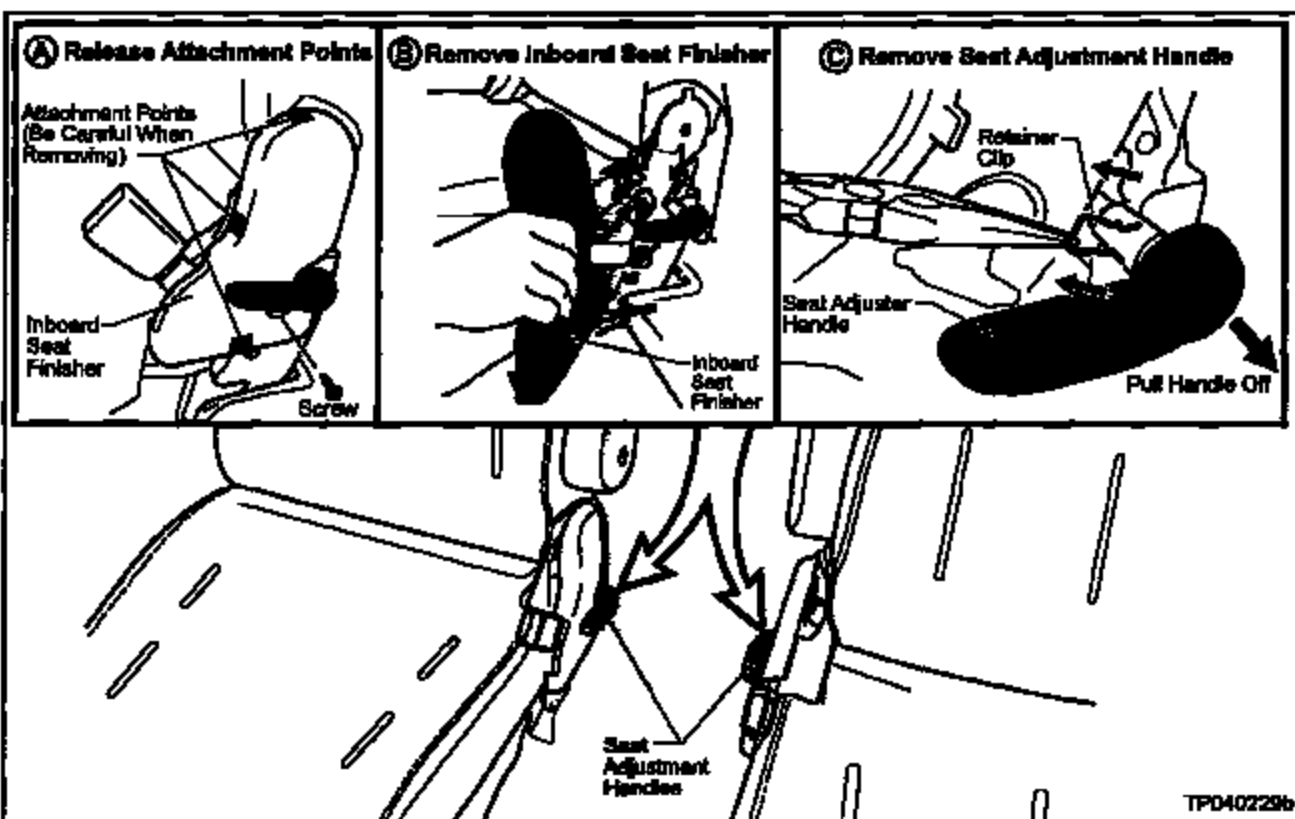

Figure E1
- a. Remove the Mounting Screw from the Inboard Seat Finisher, then release the Finisher from the attachment points (see Figure E1[A]).
- b. Carefully remove the Inboard Seat Finisher (see Figure E1 [B]).
- c. Use needle nose pliers or a "hook" type tool to remove the Retainer Clip from the Seat Adjustment Handle. See Figure E1[C].
- d. Carefully pull the Adjustment Handle off of the splined seat adjustment shaft. See Figure E1[C].